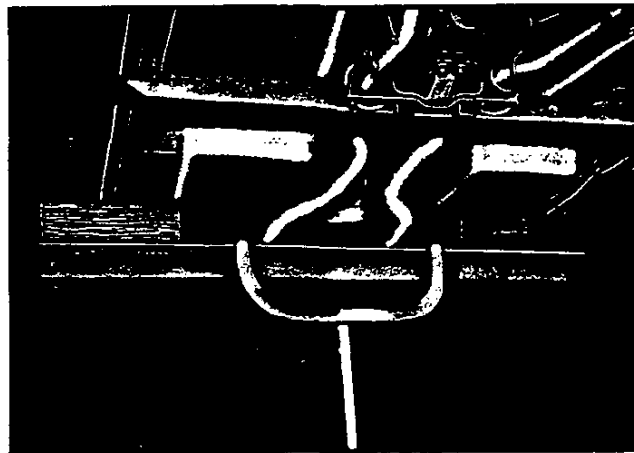

Fig. 9—Frame Lift Adapters—Corvette
- b. If rear axle work is contemplated, use either suspension adapters or drive-on adapters at the front and frame lift adapters as shown in Figure 9. If frame lift adapters are not available, use jack stands.
NOTE: Wooden blocks, bolted to steel beam shown in Figure 9 are necessary to allow beam to clear exhaust system.